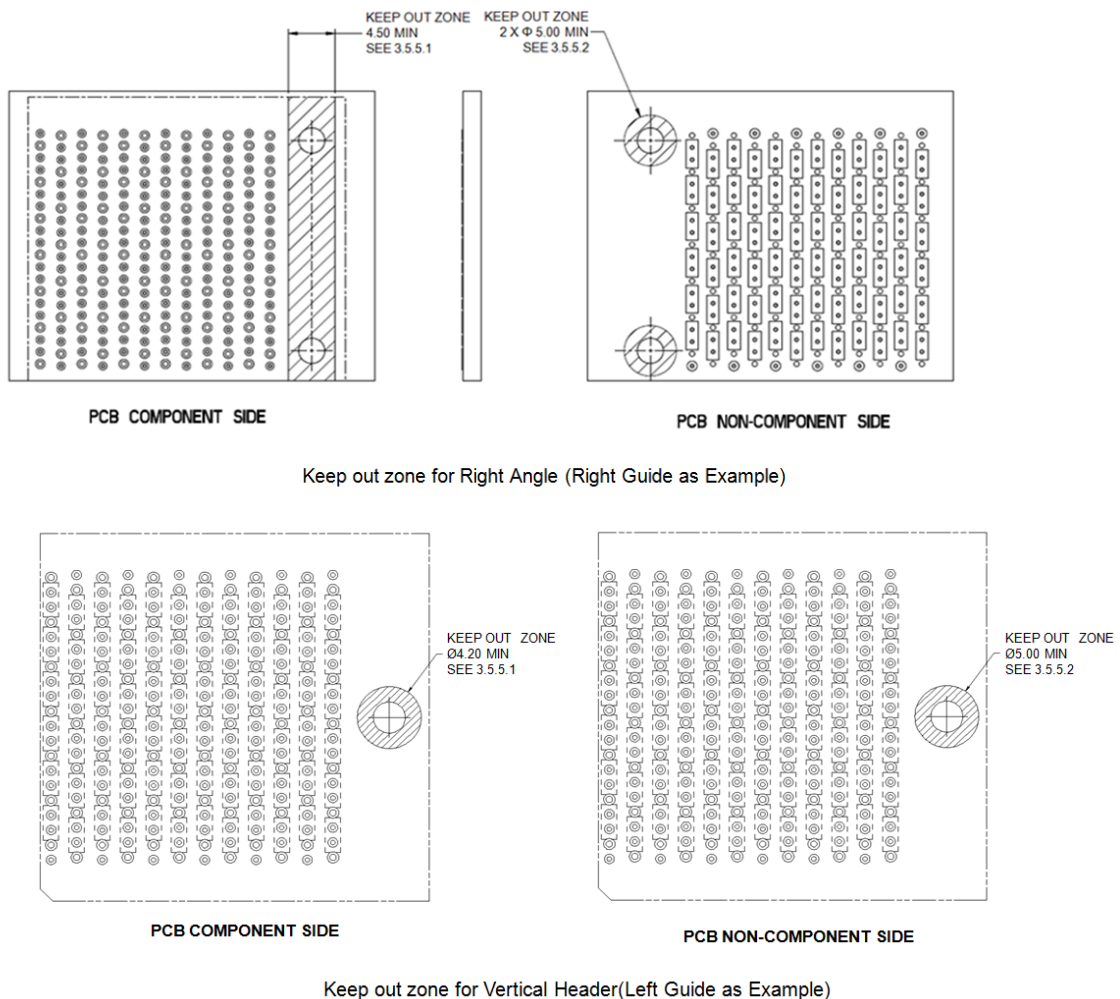

Figure 8: Keep Out Zone for Integrated Guide
3.5.5.1 Connectors with left or right integrated guides include a metal hold-down insert or a metal guide pin that is used to securely attach the connector to the PCB. Because these metal inserts are close to, and may touch the component side of the PCB. It is important that traces are not routed within the cross hatched area shown. See figure 8.
3.5.5.2 It is recommended that two M2 pan head screws be used to attach integrated guide connectors to the PCB. In order to provide clearance for the fastener heads, it is important that no components or traces be within the cross hatched area shown. If the hold down or guide pin fastener hardware used has an outside diameter larger than 4.0mm then additional clearance will be required. See figure 8.